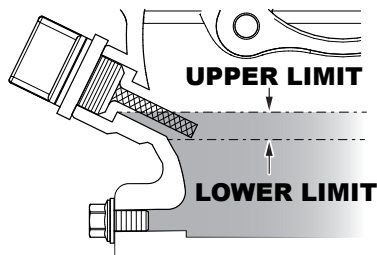

Figure 6. Engine Oil DipStick (Oil Level)
4. If the oil level is low (See Figure 6), fill to the edge of the oil filler hole with the recommended oil type (Table 3 and Table 6). Maximum oil capacity is 1.37 quarts (1.3 liters).